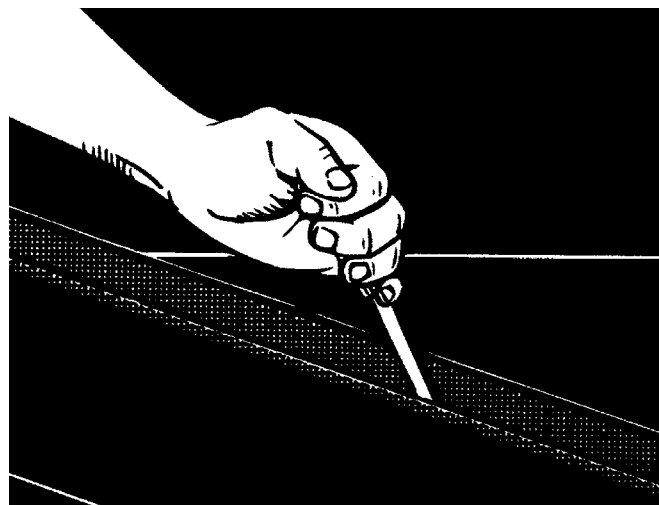

Fig. 6-4
- Using a single ply knife carefully cut the first ply (bias line) (Fig. 6-4).